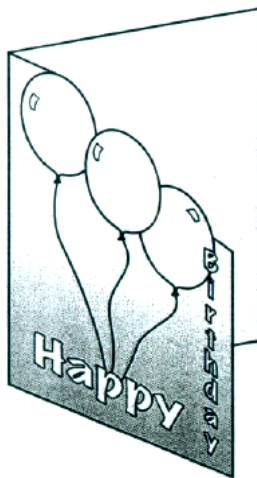

Fig. 4
- 4 Fig. 4 shows a birthday card that has part of its surface coated with ink containing phosphorescent pigments that glow in the dark.